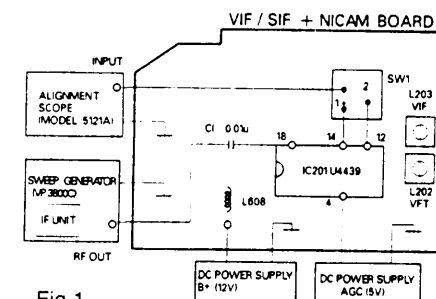

Fig 1.
- Connect the instruments and a ceramic condenser (C1: 0.0mF) as shown in fig. 1.
- Connect each equipment as shown in fig. 1, and switch on the DC power supply.
- After connecting instruments, as shown in fig. 1, supply the power source.